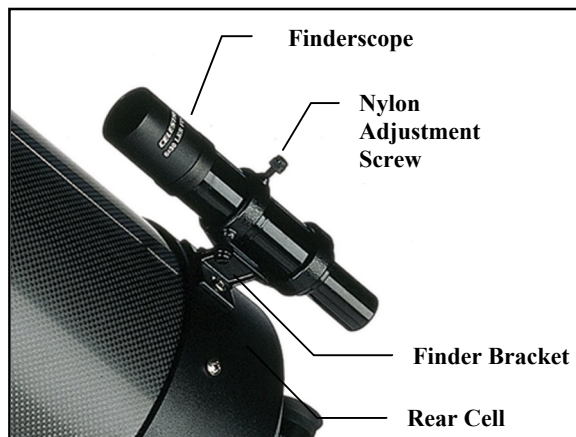

Figure 2-9
1. Attach the bracket to the optical tube. To do this, place the curved portion of the bracket with the slot over the two holes in the rear cell. The bracket should be oriented so that the rings that hold the finder are over the telescope tube, not the rear cell (see Fig 2-9). Start threading the screws in by hand and tighten fully with an Allen wrench.